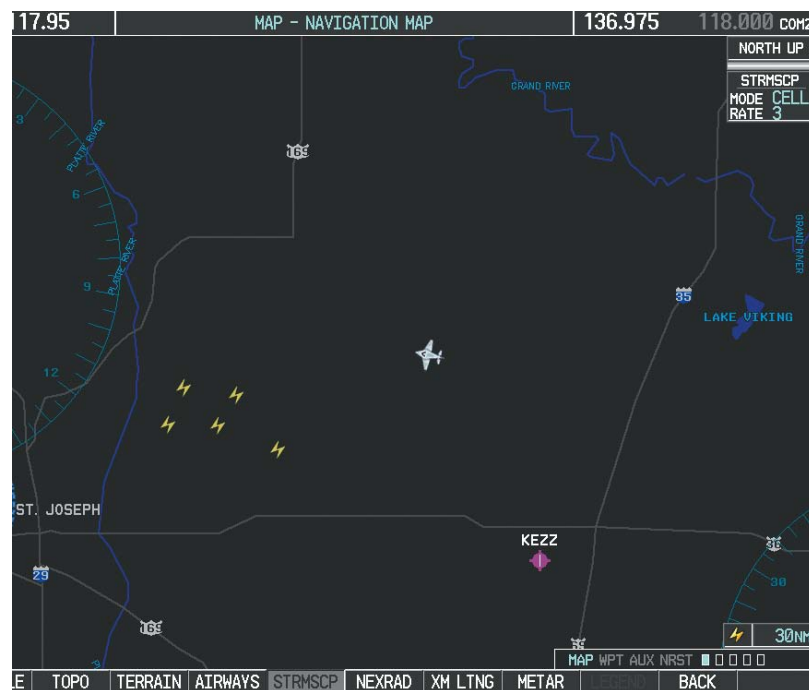

Figure 6-71 Navigation Map Page with Stormscope Lightning Data Enabled
- 7) Press the **FMS** Knob to return to the Navigation Map Page (Figure 6-71).
On the Navigation Map, cell mode identifies cells of lightning activity (Figure 6-71). Stormscope identifies clusters of electrical activity that indicate cells. Strike mode indicates the approximate location of lightning strikes.